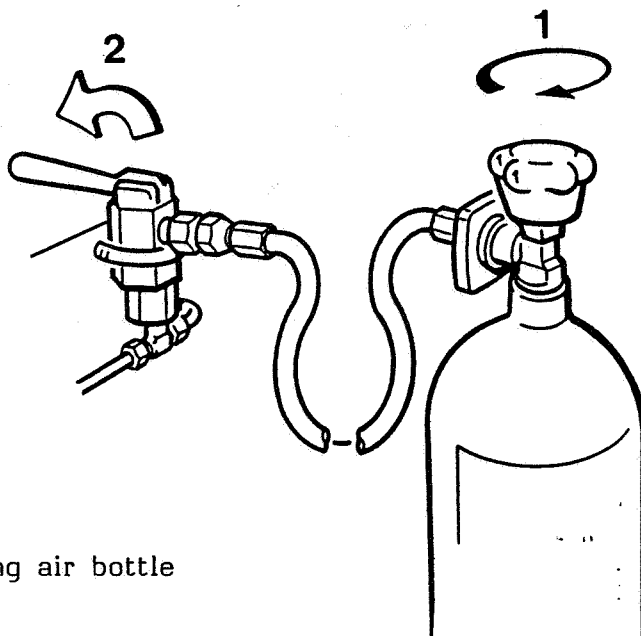

Fig. 15.6 Removing air bottle
- Upon reaching final bottle pressure **close bottle valve first, then filling valve** by returning handle to closed position (fig. 15.6).